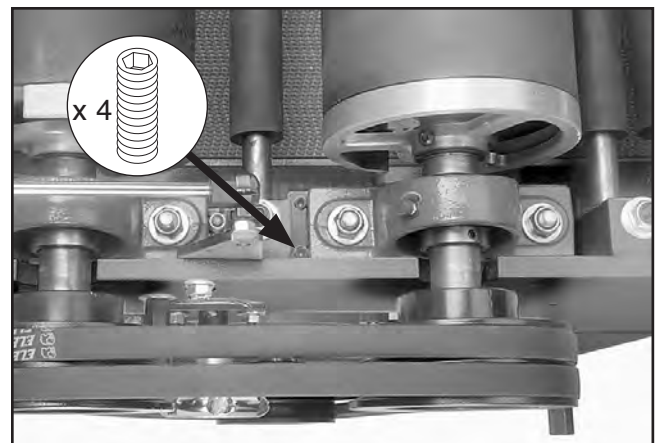

Figure 69. Location of front drum set screws.
- Adjust height of front drum by adjusting set screws (see **Figure 69**) on pillow bearing up or down until largest size feeler gauge you can fit between front drum and gauge blocks (at both ends) is 0.017"–0.025".